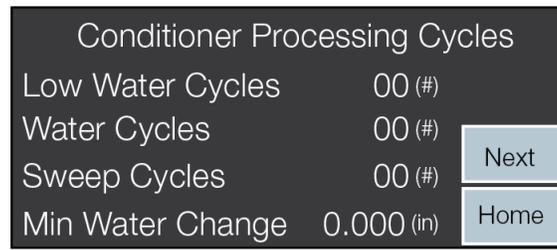

Figure 8. Conditioner Processing Cycles Screen
1. Touch the **Next** button to display the Conditioner Processing Cycles screen (see Figure 8).